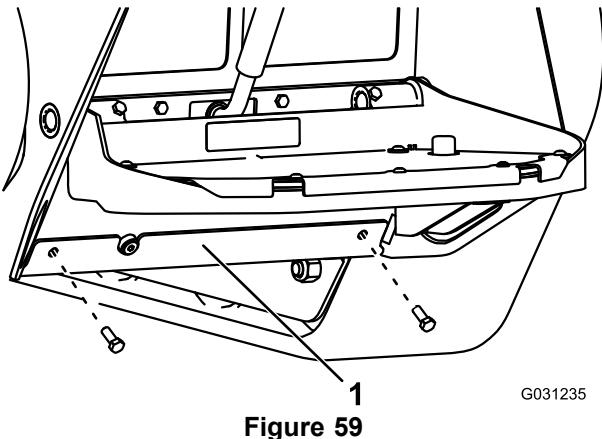

Figure 59
3. Remove the 2 bolts securing the bottom plate and remove the bottom plate (Figure 59).
5. Install the bottom plate (Figure 59).